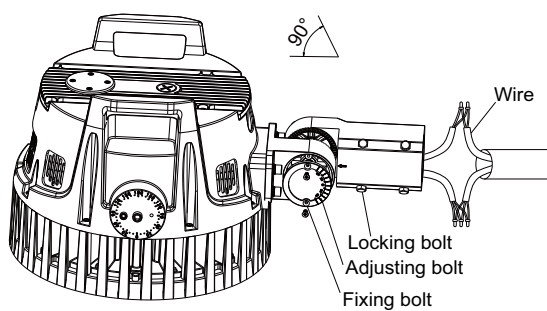
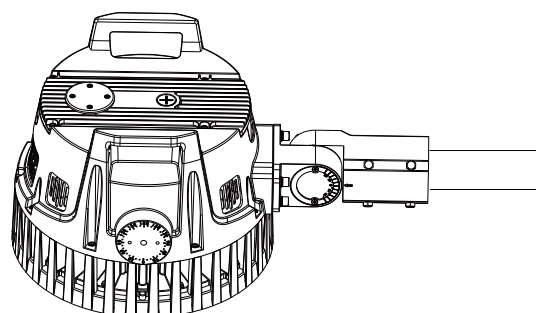

Figure 14
Figure 15
1. Loosen the 4 locking bolts on the slip fitter, connect the wire correctly and put the wire into pole. Then fasten the locking bolts between slip fitter and the pole. (Figure 14)
2. Loosen the fixing bolts and adjusting bolts, align the fixture to required angle. Tighten adjusting bolt and fixing bolts after the angle is confirmed. (Figure 15) Notice: Adjustable angle is 0-90° (Figure 14).